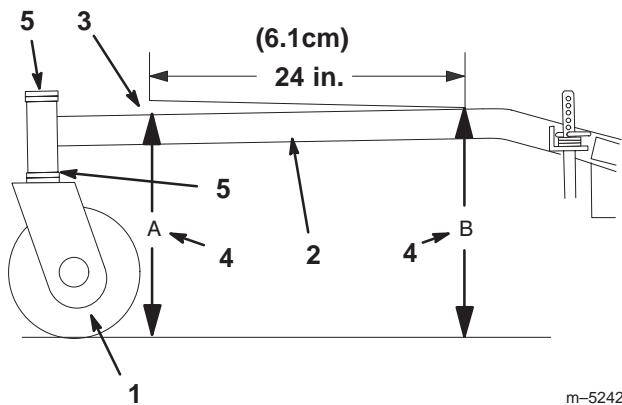

Figure 50
1. Measure out 24 inches (6.1 cm) on the carrier frame (Fig. 50).
2. Measure carrier frame height at location A (Fig. 50).
3. Measure carrier frame height at location B (Fig. 50).
4. The height at location A must be a 1/4-3/8 in. (6 mm – 10 mm) lower than location B (Fig. 50).
5. If the carrier frame is not correct, move caster spacers to make it a 1/4-3/8 in. (6 mm – 10 mm) pitch (Fig. 50). Move spacers from top or bottom to make the correct pitch.